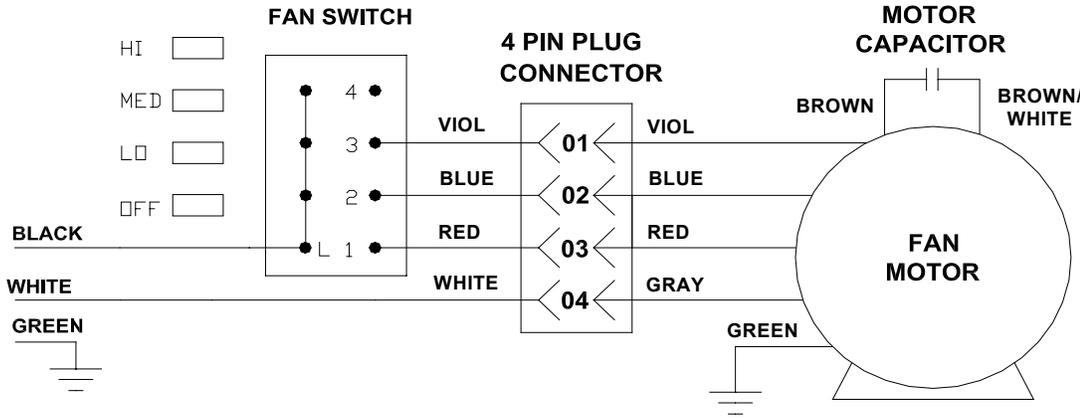

FIGURE 2
2. **Run three No. 14 gauge (or heavier) wires through conduit to the wiring compartment on the air cleaner. The green wire should be attached to the external ground. The black and the white wires are the power conductors. The connections are shown in Fig. 2.**